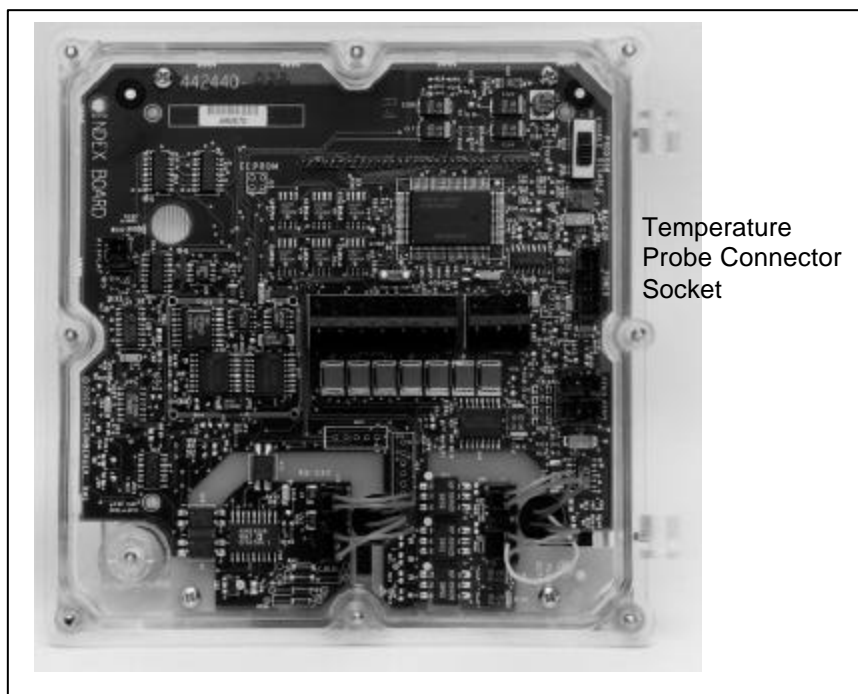

Figure 7.17 Temperature Probe Connector on Index Board
5. Identify and remove the temperature probe connector from the index board socket (see Figure 7.17).